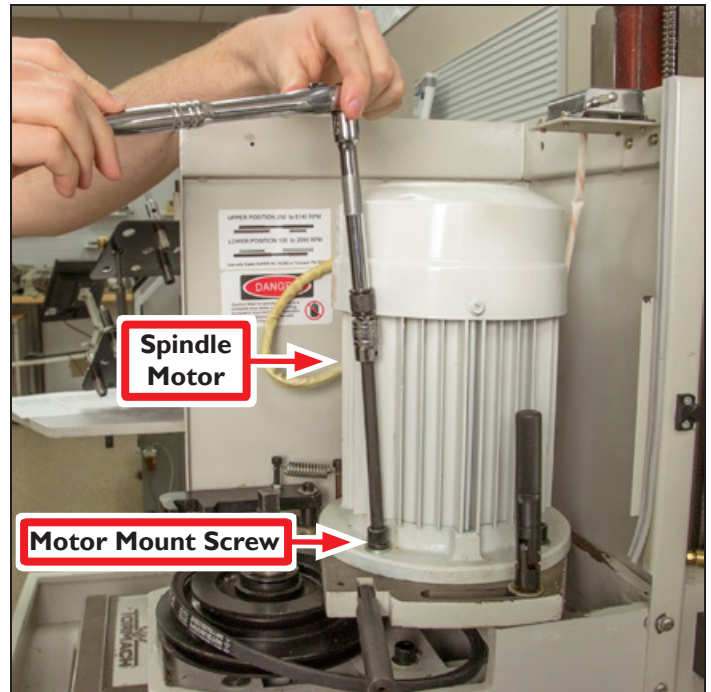

Figure 4
5. To access Motor Junction Box, you must first reposition the Spindle Motor. Loosen and remove the four Motor Mount Screws from the base of Spindle Motor with an 8 mm hex extension, a ratchet extension, and a ratchet (see **Figure 4**).